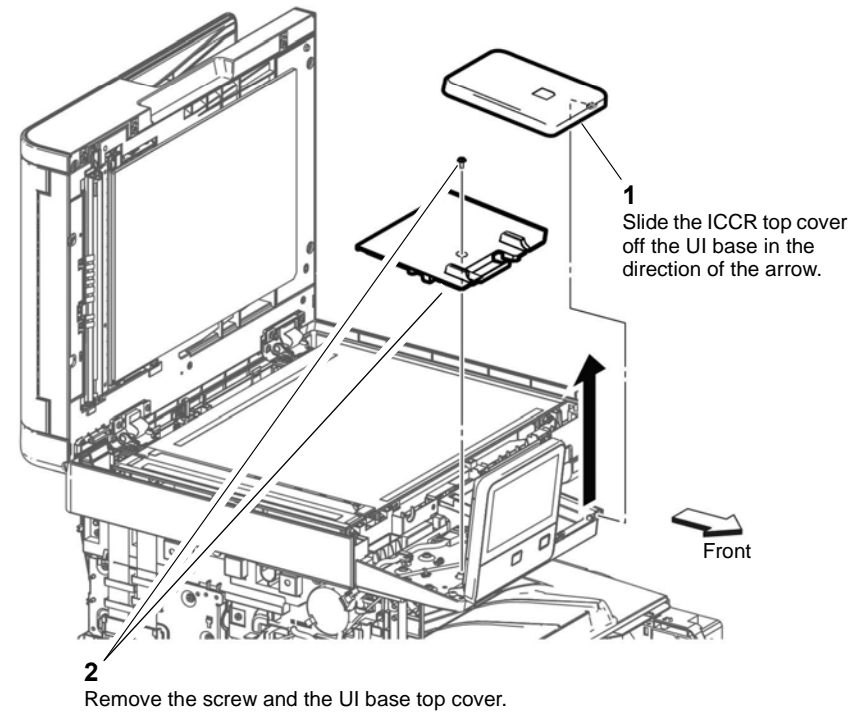

Figure 2 UI base top and ICCR covers
2. Remove the cover UI base top and ICCR top covers, Figure 2.